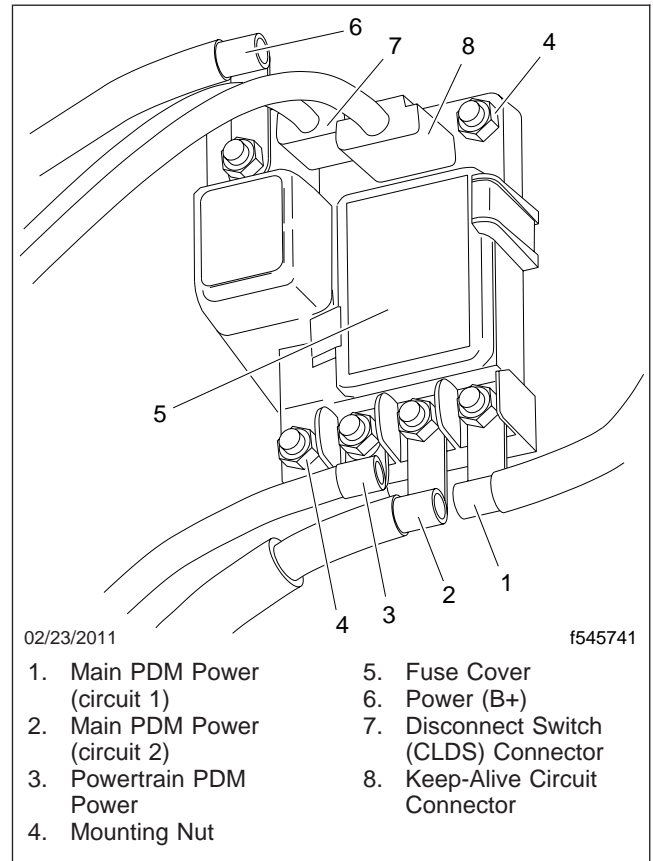

Fig. 2, Powernet Distribution Box
3. Disconnect the battery and power cables from the PNDB. See **Fig. 2**.